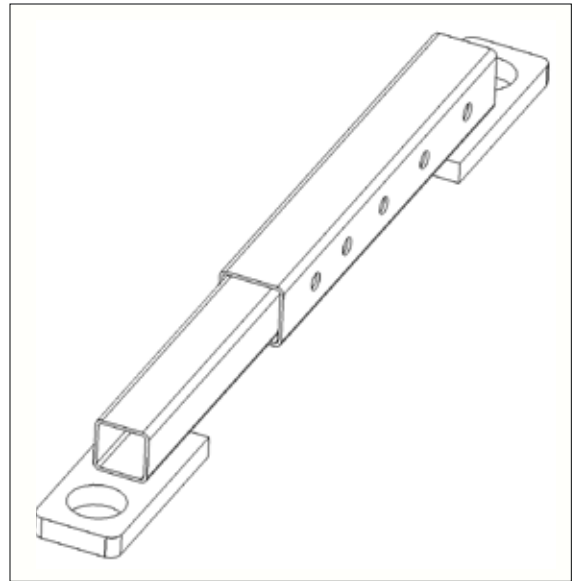

figure 4
- a. Slide the tube with 1 hole into the other tube (figure 4)